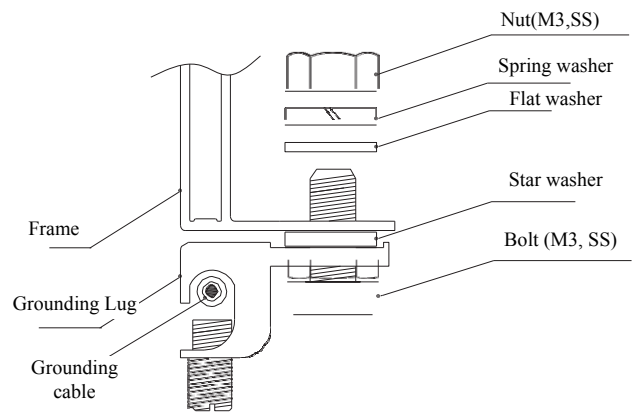

Figure 10
- First, peel the grounding cable to a proper length without damage to the metal core. Then insert the peeled cable into the lug, tighten the screw. As shown in Figure 10, connect the lug to the aluminum frame with stainless steel bolts and connection components. The recommended tightening torque for M3 bolts is 2.3N•m.